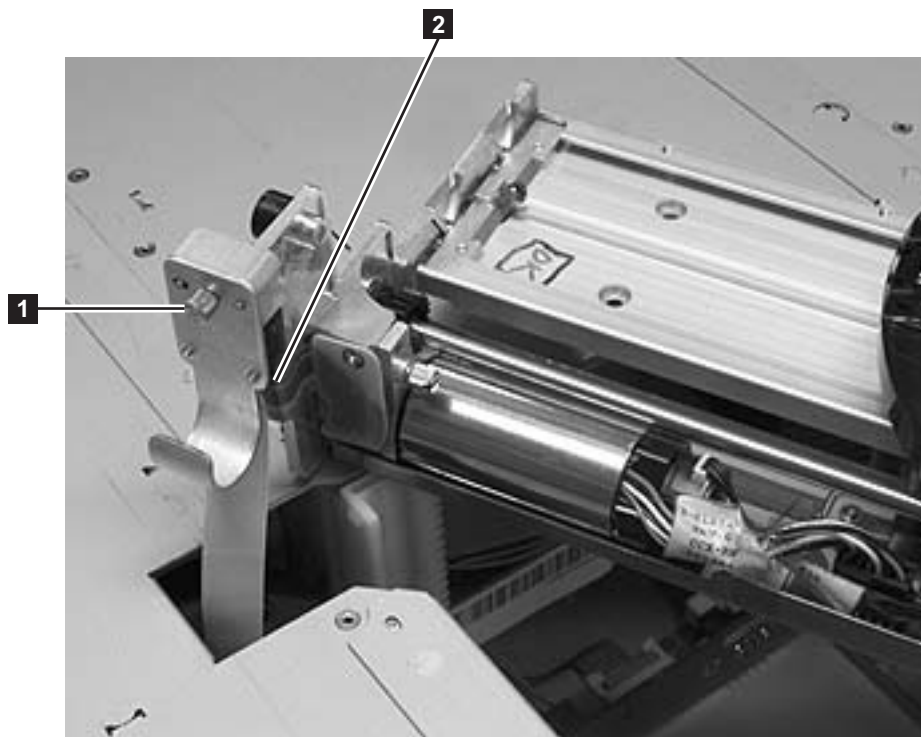

Figure 8-33. Thumb screw securing Cable Spool
6. Raise the Y-axis/Picker Assembly to the top of the library and carefully lift it out. Be careful not to damage the Cable Spool flat cable (**2** in Figure 8-33). Set the Y-axis/Picker Assembly on top of the control module and loosen the thumbscrew (**1** in Figure 8-33) to disconnect the cable spool.
- Set the Y-axis/Picker Assembly on top of the control module as shown in Figure 8-33 on page 8-38.